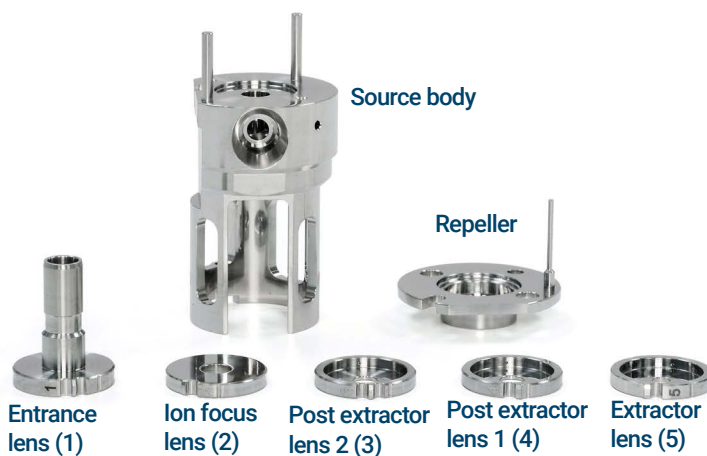

Figure 54. EI HES parts to be cleaned
- 2 Collect the following parts to be cleaned if you are cleaning an EI HES: (See Figure 54 on page 177.)
- Extractor lens (5)
- Post extractor lens 1 (4)
- Post extractor lens 2 (3)
- Ion focus lens (2)
- Extended entrance lens (1)